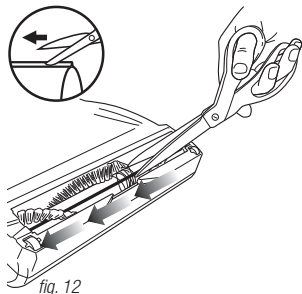

fig. 12
- 4 Inspect the rotating brush for a build-up of debris. Remove anything wound around the brush by carefully cutting it with scissors. The brush roll is equipped with a raised cutting guide to make inserting scissors easier. Avoid damaging or cutting the bristles. (fig. 12)